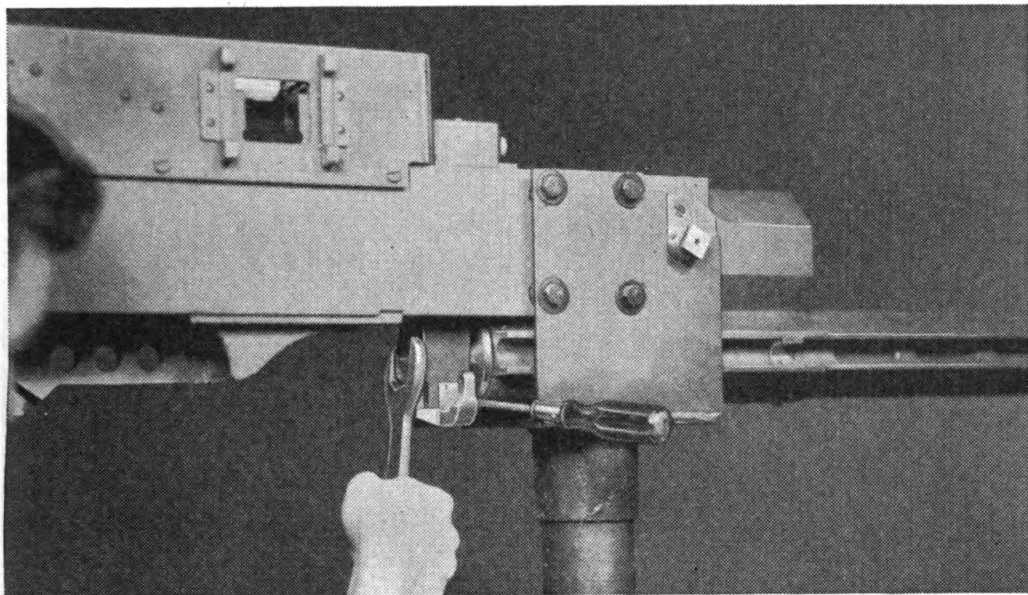
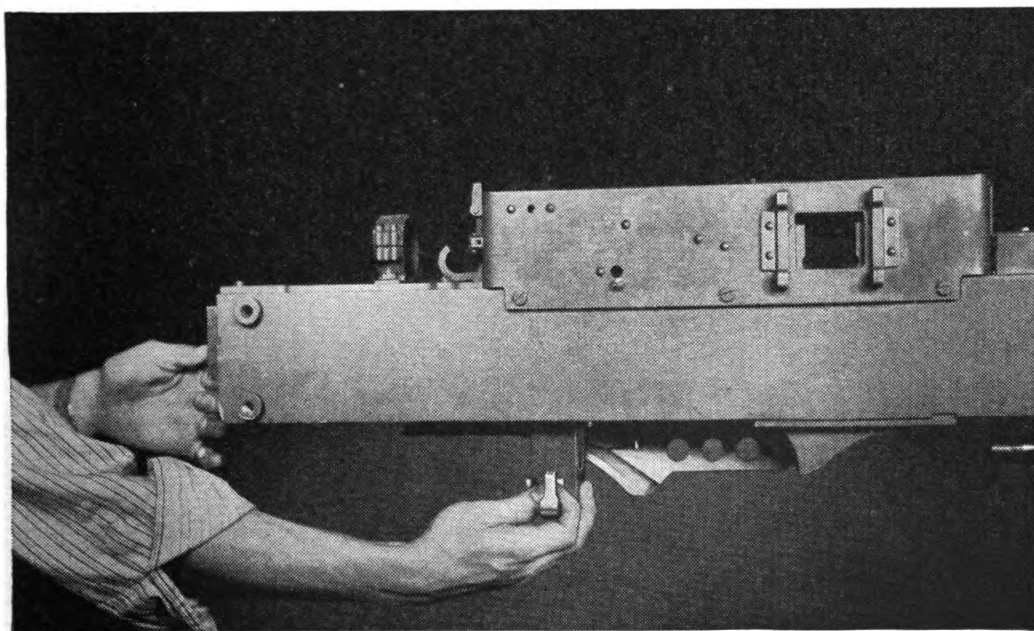

FIGURE 22.—Removing recuperator piston rod nut.
FIGURE 23.—Removing tube extension.
(2) Detach the driving spring hooks from the tube extension by retracting the plungers in the connections.
(3) With the breechblock stop depressed, unscrew the piston rod nut with the special wrench provided for that purpose (fig. 22).
(4) Slide the tube extension out through the rear of the trunnion block (fig. 23).
b. To replace.—(1) Insert the tube extension in the rear of the trunnion block and slide it forward in its guideway.
(2) Holding the breechblock stop depressed, screw the piston rod nut on tight, making sure that one flat of the nut is in line with the top of the breechblock stop (fig. 22).